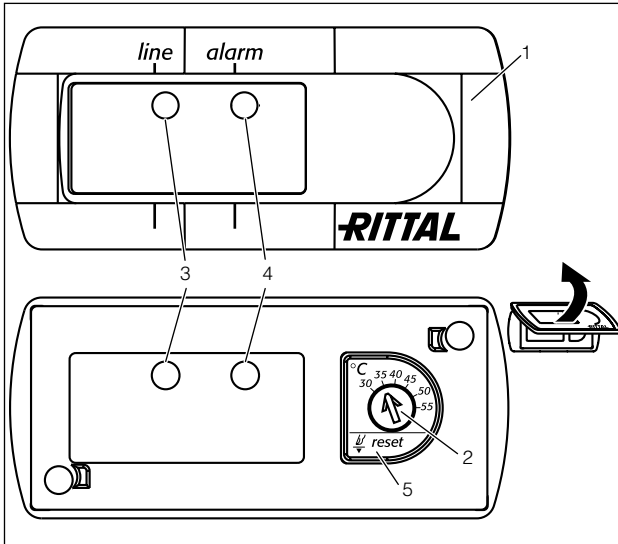

Fig. 26: Basic controller
- Set the required temperature on the temperature setting device (Fig. 26, page 20).
- Press the reset button (Fig. 26, no. 5) for at least 3 sec.